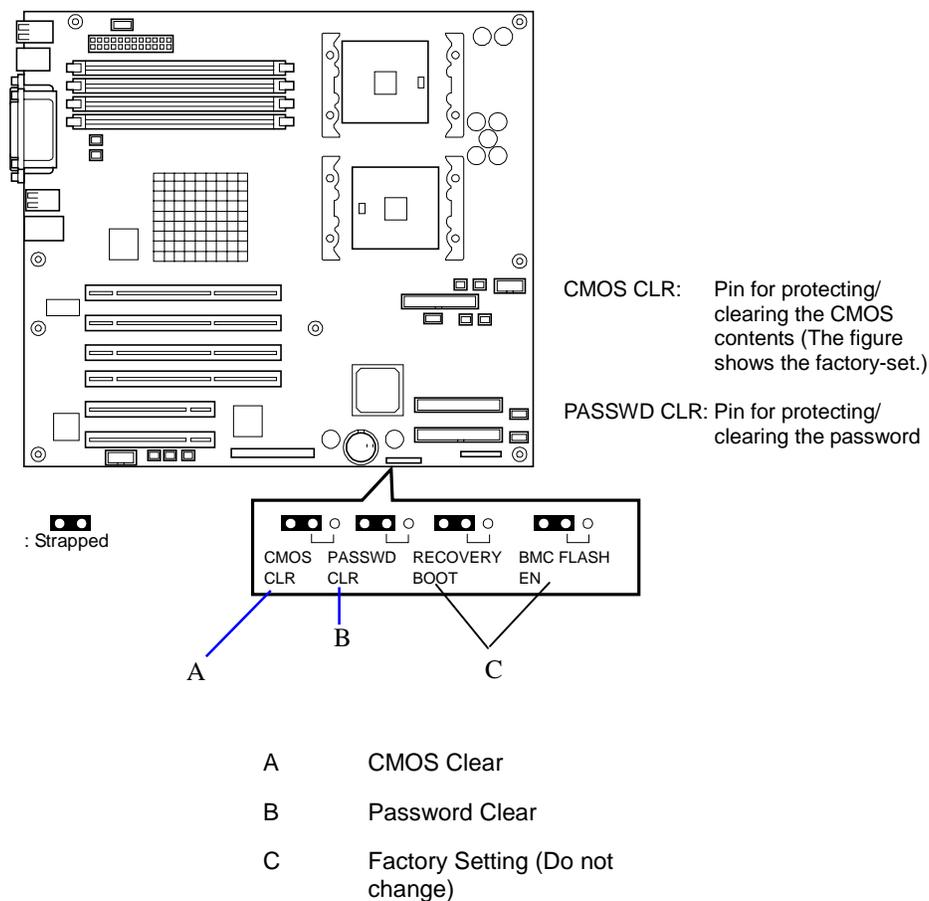

Figure 3-1. System Board Jumpers
Figure 3-1 shows the location of system board jumpers. Referring to Figure 3-1, jumper A is the CMOS clear configuration jumper. Jumper B shown in Figure 3-1 is the password clear configuration jumper. Table 3-3 lists the factory default settings for the CMOS and password configuration jumpers.
5. Locate the position of the CMOS jumper on the system board. See Figure 3-1. To change a jumper setting, use a pair of needle-nose pliers or your fingers to remove the jumper from its current location. Position the jumper over the two pins shown at Figure 3-1, A and press it onto the pins. Be careful not to bend the pins. Also refer to Table 3-3 for system board jumper setting descriptions.
See Figure 3-1. To change a jumper setting, use a pair of needle-nose pliers or your fingers to remove the jumper from its current location. Position the jumper over the two pins shown at Figure 3-1, B and press it onto the pins. Be careful not to bend the pins. Also refer to Table 3-3 for system board jumper setting descriptions.